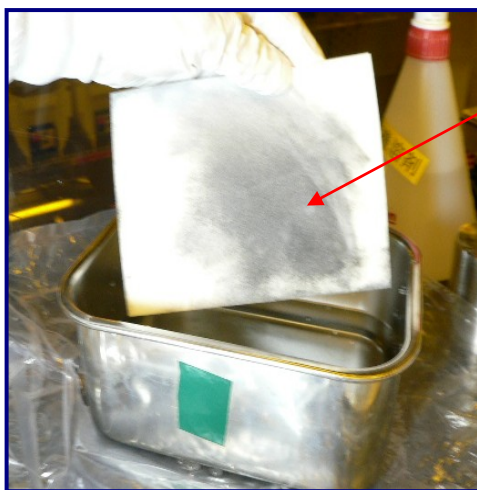

Fig 6: UltraSOLV® Sponge loaded with deposition
- Step 10:** As UltraSOLV® Sponge becomes loaded with deposition, rinse in container of DI water (See Fig 6 & 7)